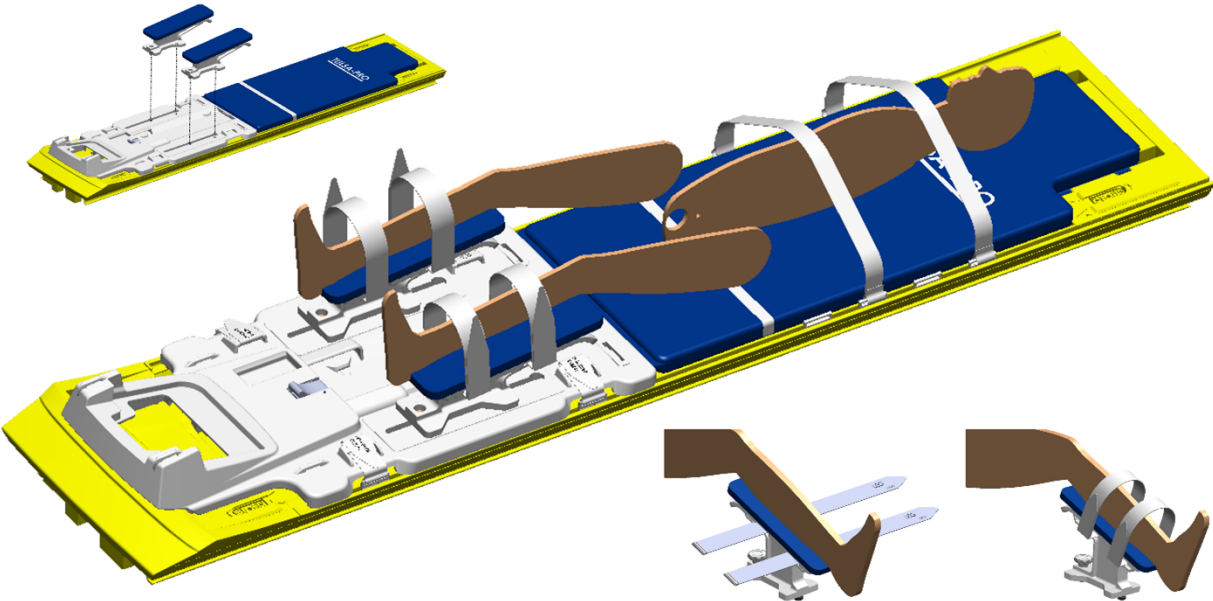

Figure 21: Initial patient positioning and attachment of leg supports
4. Have an assistant lift the patient's legs one at a time while you set up the leg supports (*Figure 21*):